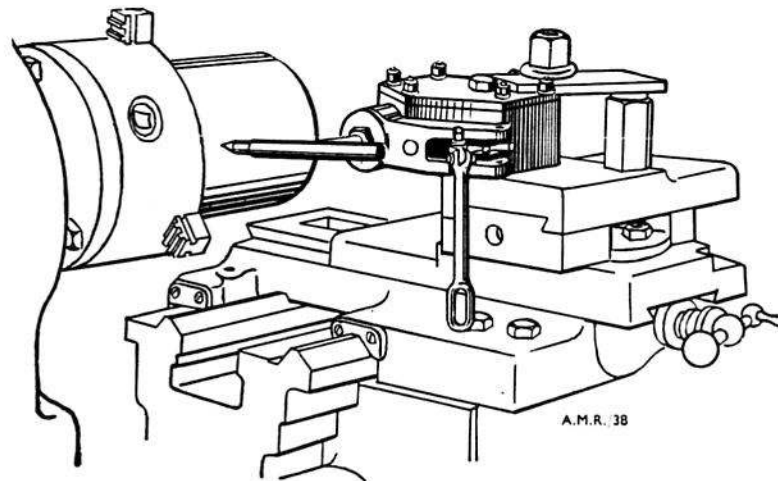

Fig. 15. Method of setting up lathe
- (c) Set up the drogue gun in the lathe tool rest and screw the pencil holder in place of the cocking tool as shown in fig. 15.